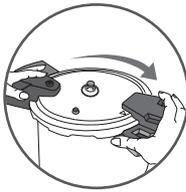

Fig 2
- Turn the lid towards the left until it is closed - Fig. 2.